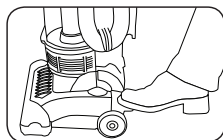

Fig. 1
1. To release the handle, step on the handle release pedal on the left side of the vacuum nozzle and pull back the handle (Fig. 1).